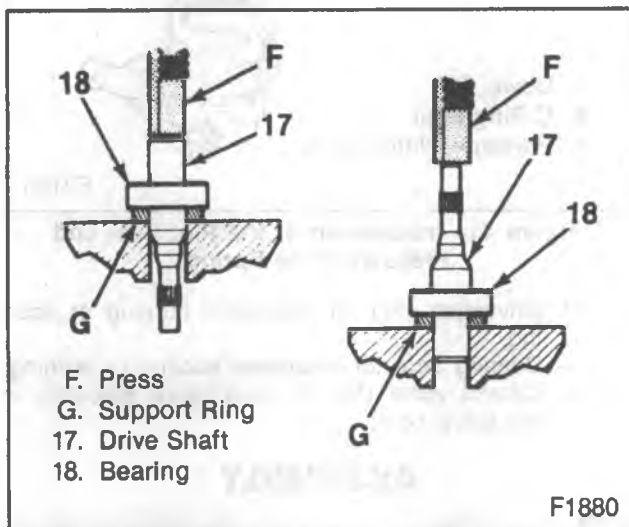

Figure 33—Remove and Install Driveshaft Bearing
- 16. Bearing (18) onto the driveshaft (17) (figure 33).